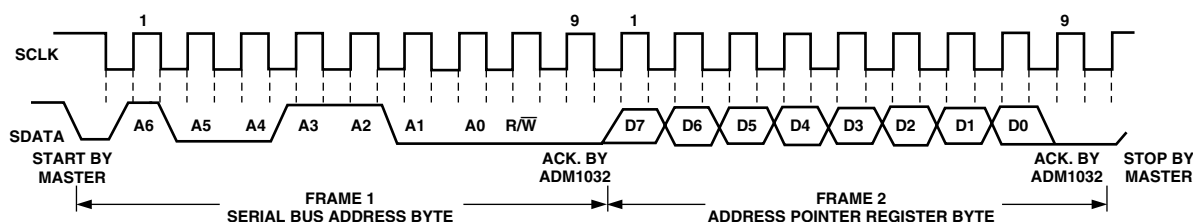

Figure 3b. Writing to the Address Pointer Register Only
- If the ADM1032's Address Pointer Register value is unknown or not the desired value, it is first necessary to set it to the correct value before data can be read from the desired data register. This is done by performing a write to the ADM1032 as before, but only the data byte containing the register read address is sent, since data is not to be written to the register. This is shown in Figure 3b.
- If the Address Pointer Register is known to be at the desired address already, data can be read from the corresponding data register without first writing to the Address Pointer Register and Figure 3b can be omitted.